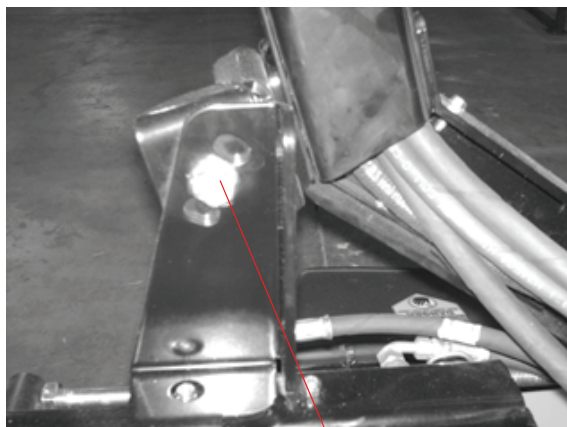

Figure. 1 *Steering column*
1. This machine has an adjustable Steering column. It can be adjusted rearward/upward or forward/downward by repositioning the column. See Figure 1 below.